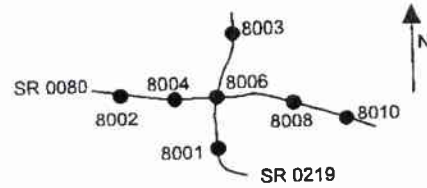

FIGURE 3
3. Interchanges are numbered sequentially. Odd numbers are given to interchanges along SR's in the North/South direction; even numbers are given to interchanges along SR's in the East/West direction (Figure 3).